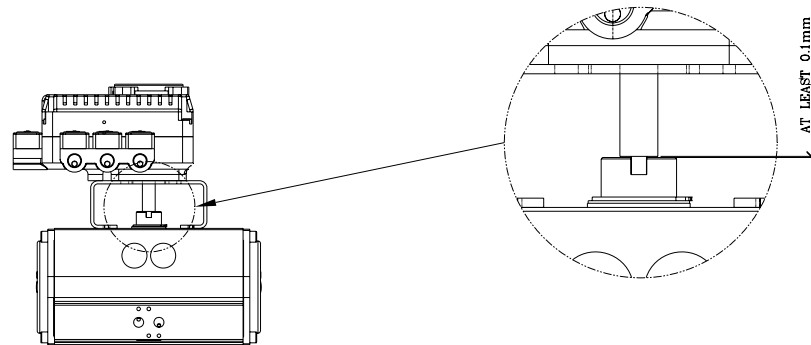

Fig. 3 (RTX – 1200R on NAMUR Shaft)
(1) Standard actuator stem height (H) is 20, 30, or 50mm. After checking "H", assemble with the bracket as shown in **Fig.3 & 4**. For bracket selection refer bracket selection chart in ROTEX positioner catalogue.